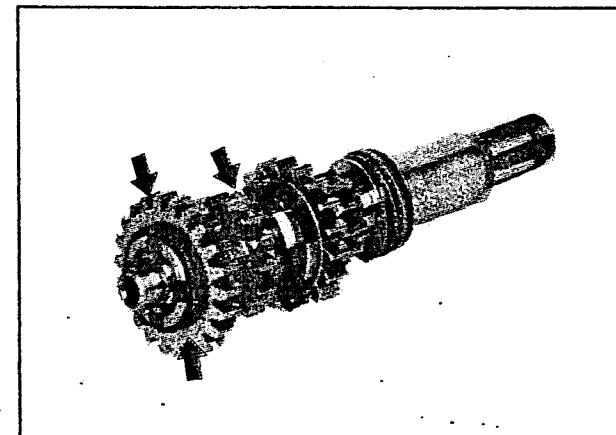

Fig 3.44
- Take off the circlip ring and then remove the top and 2nd drive gears from the countershaft (fig 3.44)